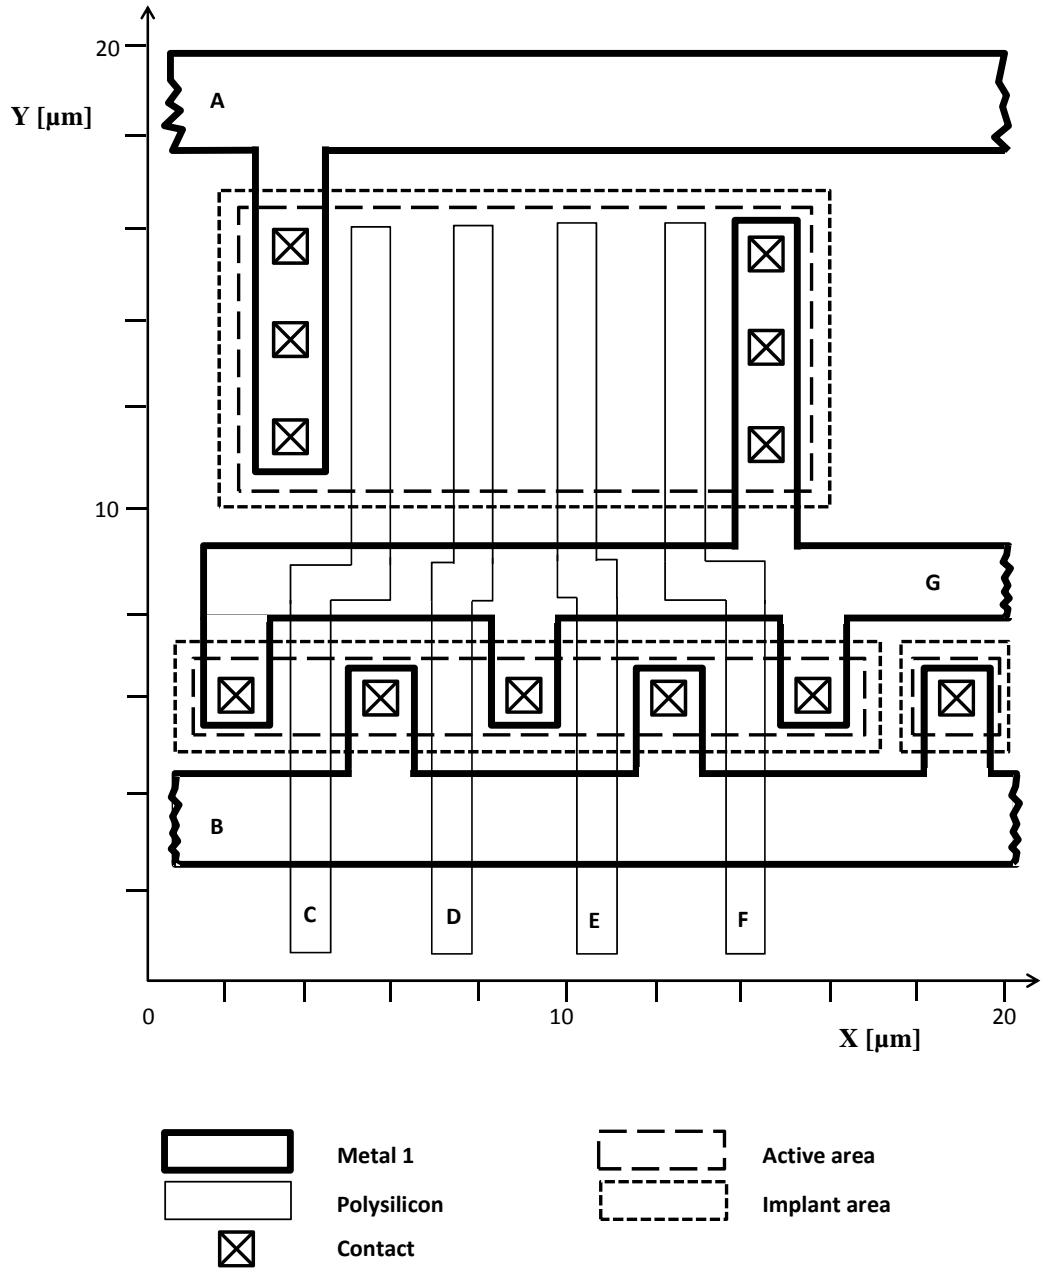

Fig. 1
One extra copy of Fig. 1
- (b) Fig. 1 is a plan layout of a CMOS technology gate, where A is the 3V power supply rail and B is the ground line.
- (ii) Identify on the answer sheet copy of Fig. 1 which transistors are p-type and which are n-type. [10%]
- (iii) A major error has been made in the layout shown in Fig. 1. Identify and explain this error and, on the answer sheet copy of Fig. 1, redraw the layout to eliminate this error. [10%]
- (v) Sketch on the answer sheet copy of Fig. 1 a suitable location for an n-type well in the p-type silicon substrate. Label the regions which are implanted with n-type dopants, and explain the electrical function of the structure near the point X=19, Y=6 in Fig. 1. [20%]
Additional copy of Fig. 1